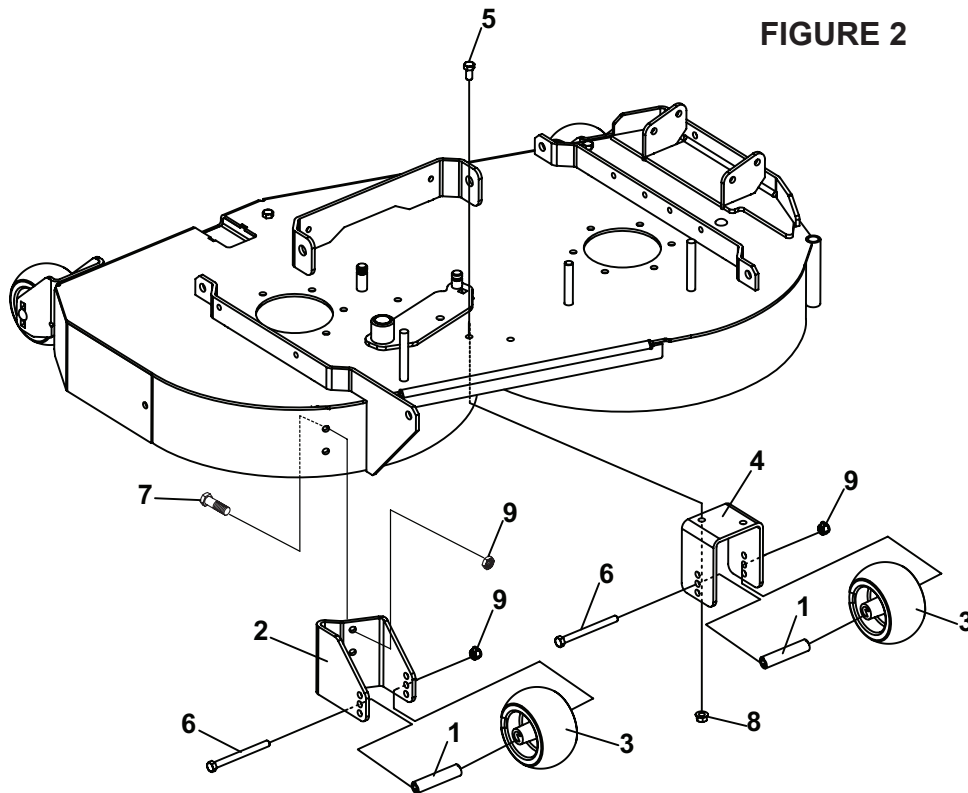

FIGURE 2
4) Install the middle roller bracket **4** using bolt **5** and nuts **8**, as shown in **Figure 2**.
5) Install the middle roller **3** using one bolt **6**, one spacer **1**, and one nut **9** as show in **Figure 2** to the desired height.
- 10) Install the middle roller using one bolt **6**, one spacer **1**, and one nut **9** as show in **Figure 2** to the desired height.